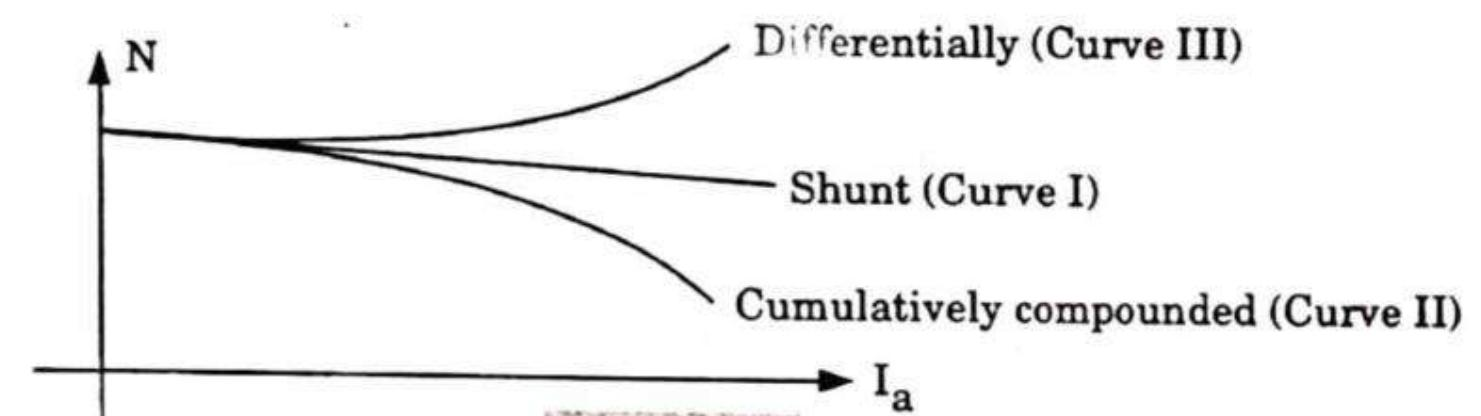

Fig. 4.10.2.
- Consider $N-I_a$ characteristics of shunt motor as shown in Fig. 4.10.2 by curve I.
\therefore Speed N decreases as $N \propto \frac{1}{\phi_T}$. This is shown in characteristics by curve II in Fig. 4.10.2.
\therefore Speed N will increase, since $N \propto \frac{1}{\phi_T}$. This is shown by curve III in Fig. 4.10.2.